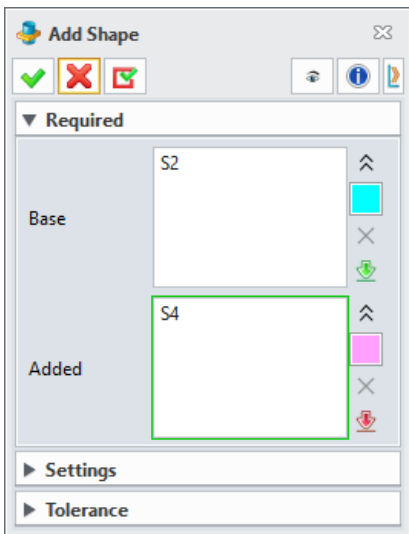

Figure 35 Combining the Pockets
**STEP 03** Unblank S2 and combine the pockets following *Shape->Edit Shape->Add Shape*, then select two separate pockets (S2 and S4) respectively in the Base and Added sections as shown in Figure 35.